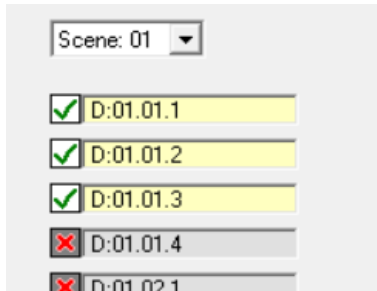
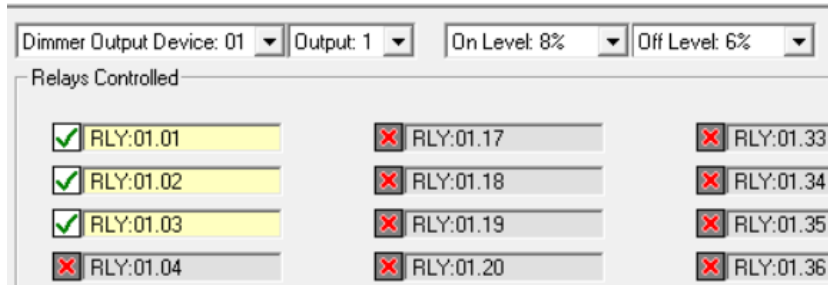

Figure 6
Figure 7
- A Scene Tool will set the Dimmers selected for the Scene and set dimmer to relay control On/Off points, On at 8%, Off at 6%. This accounts for lighting that is capped at a 5% min level. See Figure 6 and Figure 7